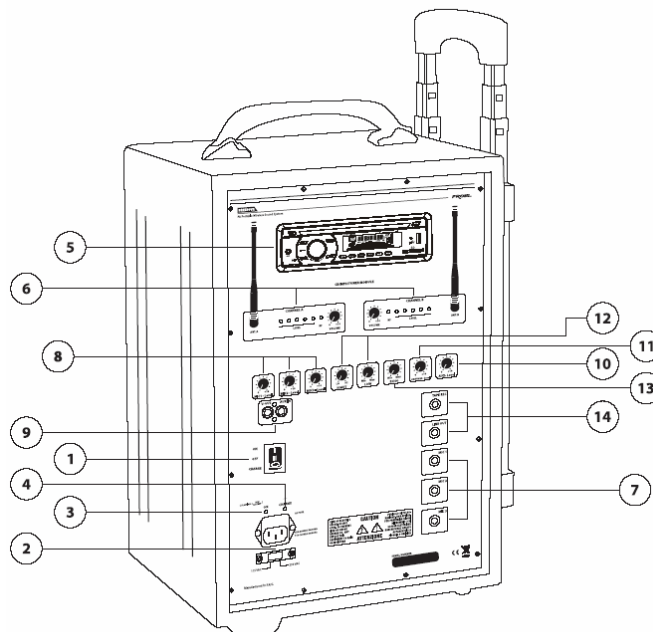

fig. 1
FREE50V2 has been designed for 230-117VCA 50/60Hz main power supply. The unit is supplied with earth main power supply cable . Use such cable to connect to the main power source setting the subsequently the power ON commutator on position AC, FREE50V2 is ready to operate powered by the main power supply source. The main power supply unit is protected by the appropriate fuse located in the main power supply plug (fig.1 ref.1) .
Commute power on selector on position DC (**fig.1 ref.2**). Check that the “battery low” indicator is OFF, contrarily charge FREE50V2 battery connecting to an AC Main power supply source.
3 XLR combo inputs (**fig.1 ref.7**) allows to connect to FREE50V2 acoustic cabinet 3 low impedance dynamic microphones. Such microphones can operate contemporaneously or in miscellaneous with two wireless microphones included in the standard supply.
FREE50V2 can be connected to an auxiliary and external source so as a CD player or recorder/reproduced using the appropriate RCA input (**fig.1 ref.9**), The signal wideness can be set throughout level control (10).
Using output LINE/TAPE REC (**fig.1 ref.15**) to pilot an external amplifier or other amplified acoustic cabinet FREE50V2 connecting with JACK mono/RCA line cable the line output of one LINE with the input of the second line.
The apparatus reproduces DVD format. Connect the CVBS output (**V- OUT fig.1 rif.9**) to CVBS Monitor Input and set this in AV mode.